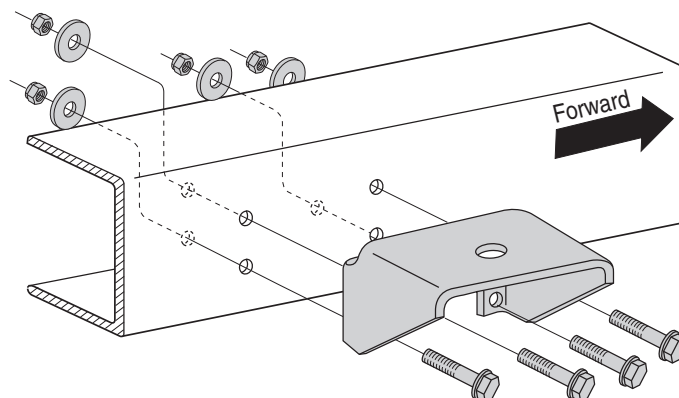

fig. 7
1. Using the upper bracket as a template, centerpunch one of the lower mounting holes and drill a 3/8" hole through the frame. (fig. 7)